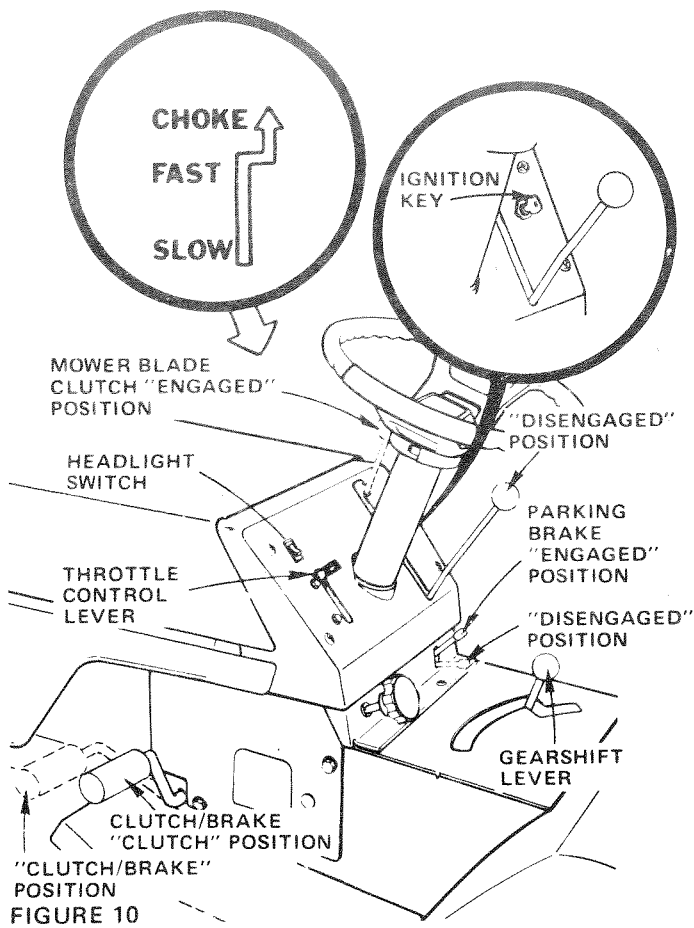

FIGURE 10
1. Disengage Mower Blade Clutch Lever (Fig. 10).
3. Place Gear Shift Lever in "NEUTRAL" position (Fig. 10).
4. Move Throttle Control Lever (Fig. 10) to "FAST" detent, then to the right and upward for "CHOKE" position. At the "FAST" position the Lever has a stop. The stop is provided so that you will know when you are at full throttle "FAST" position and prevent over travel into choke position.
5. Turn Ignition Key clockwise (↻) to "START" position and release Key as soon as engine starts (Fig. 10). Immediately move Throttle Control Lever mid-way between "FAST" and "SLOW" positions.
Move Throttle Control Lever mid-way between "FAST" and "SLOW" positions (Fig. 10). As engine warms up, move Throttle Control Lever to "FAST" position. NOTE: ALLOW ENGINE TO WARM UP FOR A FEW MINUTES BEFORE OPERATING.